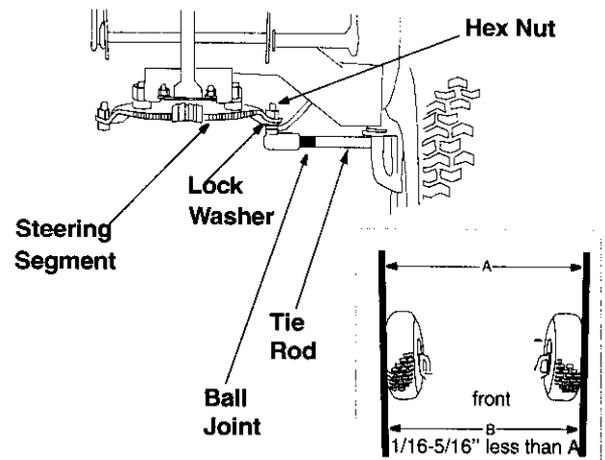

Figure 11
- Remove the 3/8" hex nut which holds the ball joint to the steering segment. See Figure 11.
- Adjust the ball joint in or out until the wheels toe-in approximately 1/16-5/16" (Dimension "B" should be approximately 1/16-5/16" less than dimension "A"). See Figure 11.